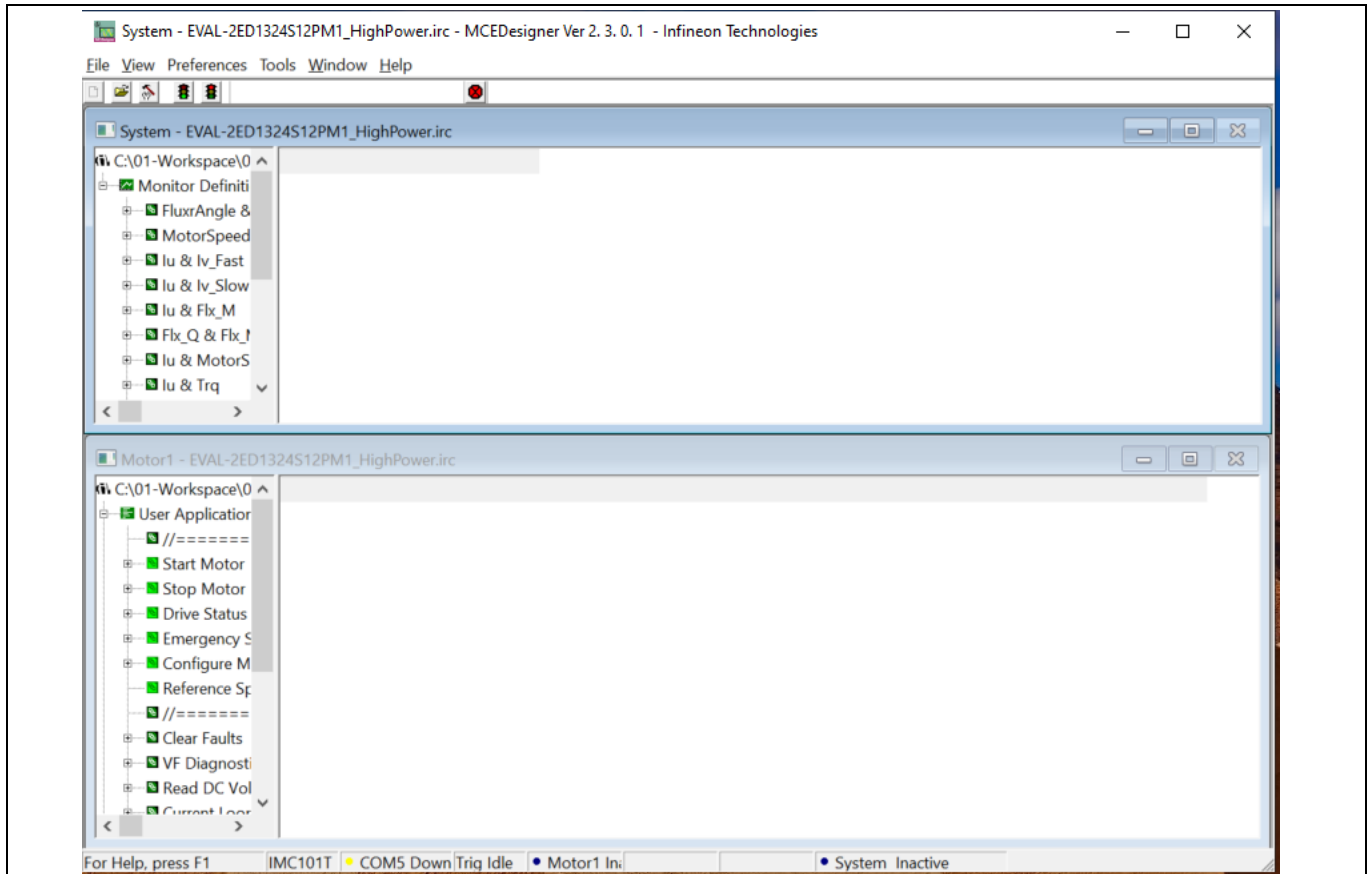

Figure 6 MCEDesigner’s main display for EVAL-M1-101T
3. Go to the Verify & Save page and click **Calculate Parameters**. Then, save the drive parameter set into your project directory by clicking **Export to MCEDesigner file (.txt)** (see Figure 6). This saved drive system parameter file will be used later by the MCEDesigner. Refer to Section 2.1.4 or the MCEWizard user guide for more information.
The MCEDesigner is a user interface to access or debug the control board. Open the MCEDesigner and then open the IMC101T_xx.irc file. The main display page for EVAL-M1-101T opens, as shown in Figure 6.